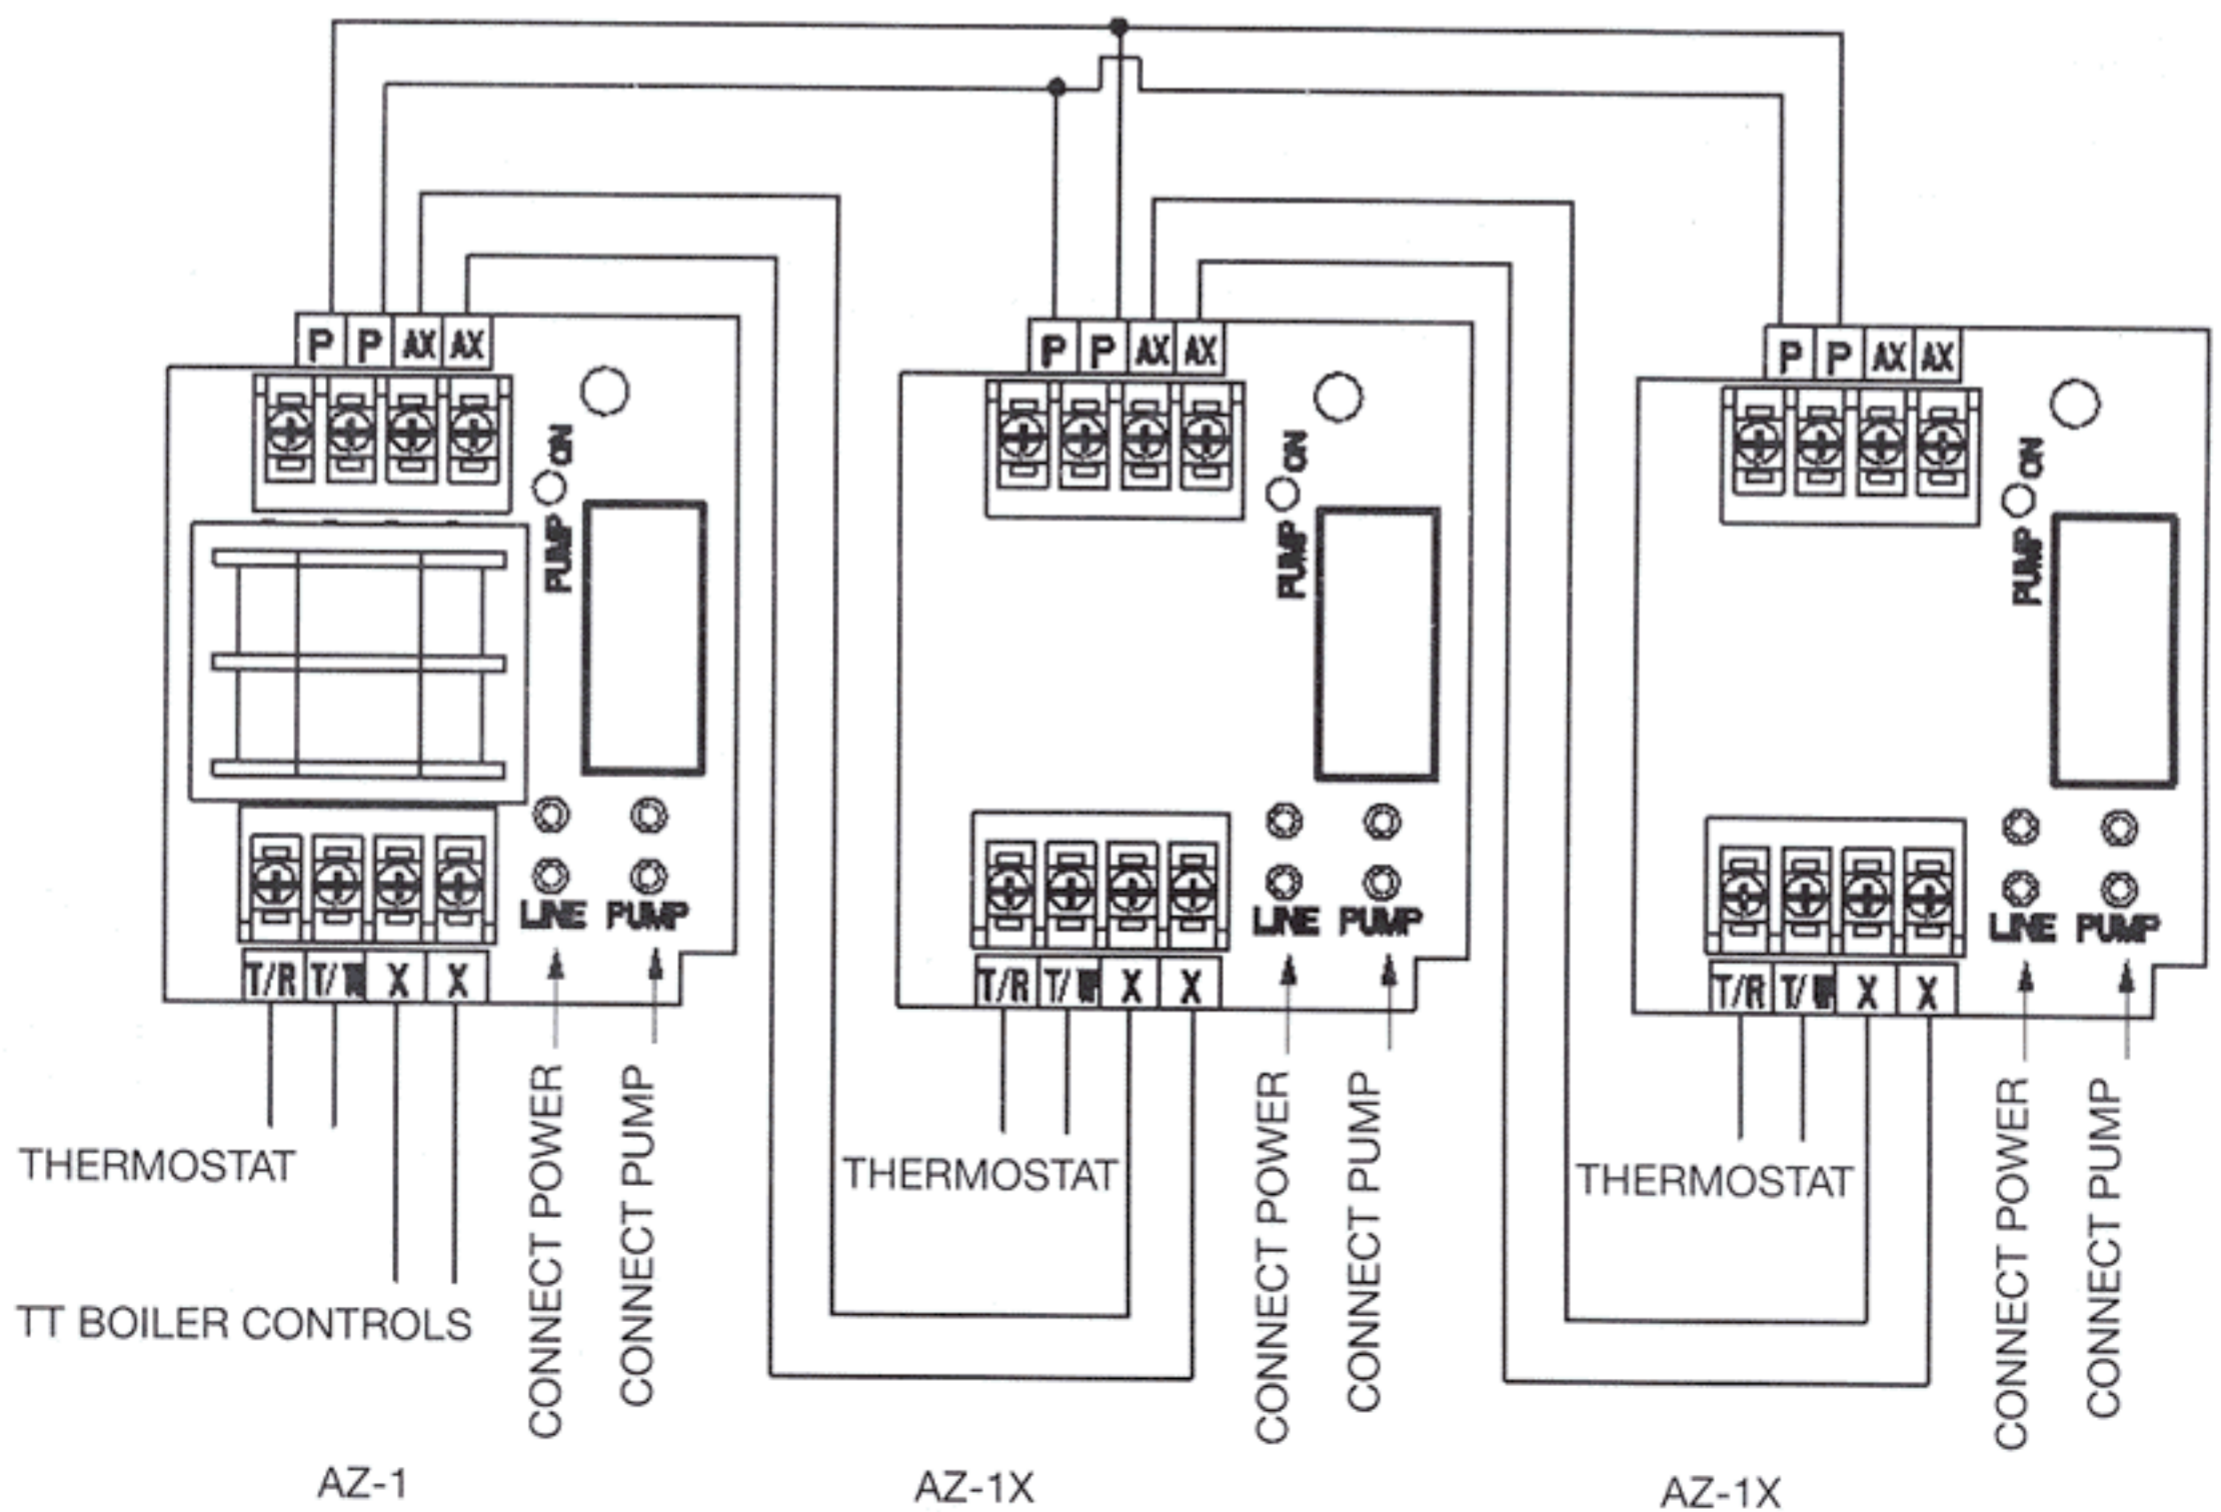

Figure 3: AZ-1 with AZ-1X Wiring Scheme
8. Run the wires for the following connections through the grommet in the plastic base. Connect thermostat wires to the appropriate TR/TW terminals. Connect the terminals designated as P/P in the AZ-1 and AZ-1X modules. Connect the X/X terminals in the AZ-1X to the AX/AX terminals in the AZ-1. As an alternative, the X/X terminals in the AZ-1X can be wired directly to the appropriate 24-volt boiler controls. (See figure 3 & 4) Do not use the holes in the metal conduit box for 24 volt control wiring. The holes in the metal conduit box are for power wiring only. **Do not add more than two AZ-1X expansion modules to one AZ-1.**